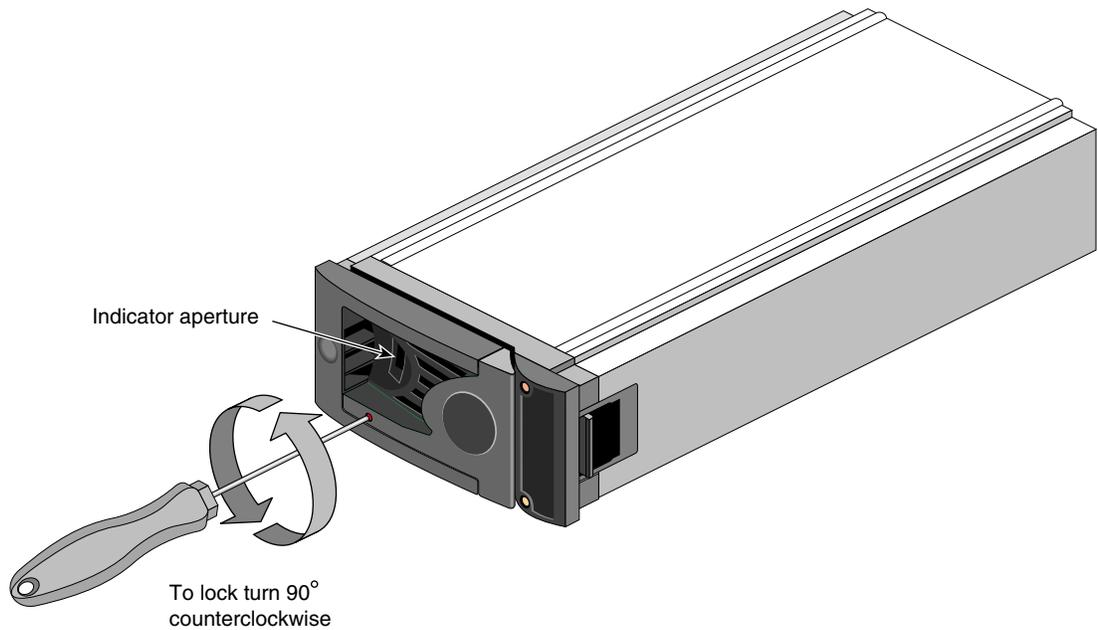

Figure 6-7 Locking the Disk Drive Module (Setting the Antitamper Lock)
- Carefully insert the lock key provided into the cutout in the handle trim. See Figure 6-7.